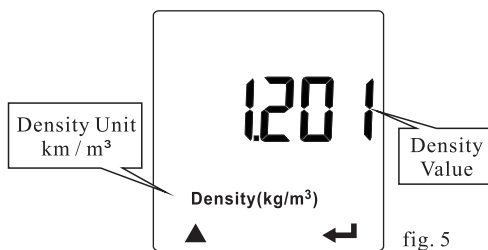
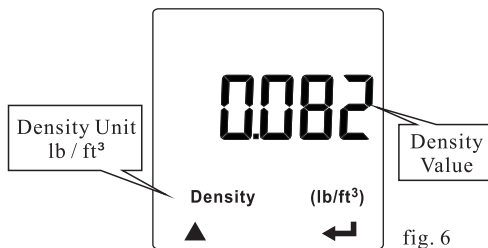

fig. 5
fig. 6
- If you selected air flow unit in m/s, the density unit should be kg/m3 as fig. 5, if you selected fpm air flow unit, the density unit should be lb/ft3 as fig. 6 showed.